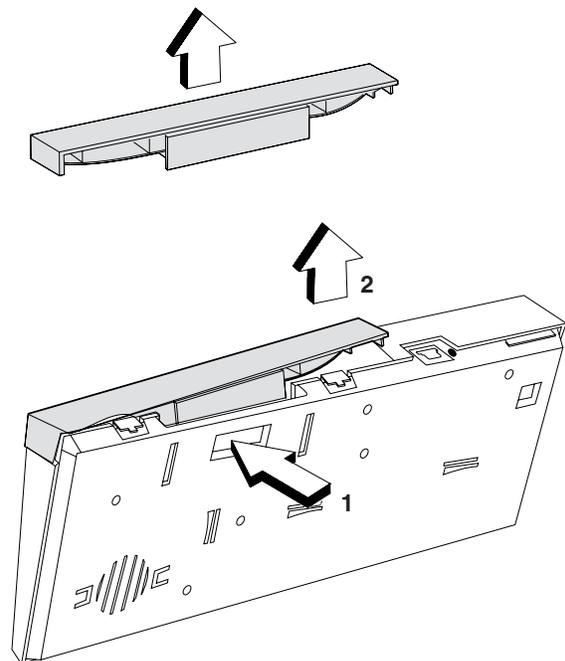

Figure 4-7. Removing the ANPOS card reader or Filler Cover
- 1** Stand the keyboard on its front edge. See Figure 4-7.
- 2** Press and hold the card reader latch (1) on the bottom of the keyboard.
- 3** While pressing the latch, grasp the end of the card reader or filler cover nearest the center of the keyboard (2) and lift it away from the keyboard.